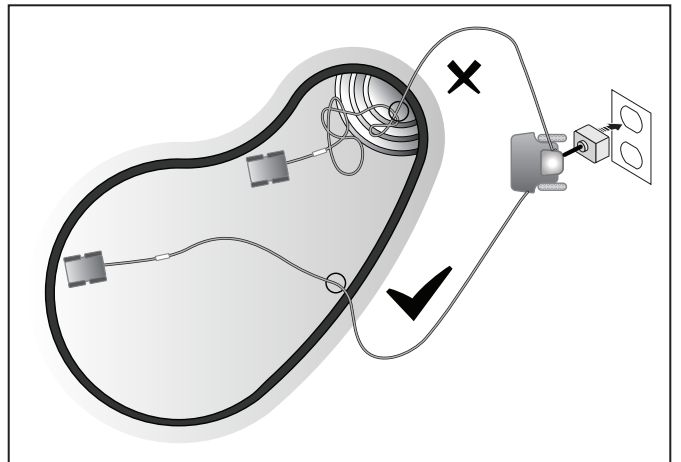

**Figure 15. Wash Filter Canister**
9. Empty all debris from the filter canister, then rinse the canister, the filter support, and the cleaner under water or using a hose, as shown in Figure 15.